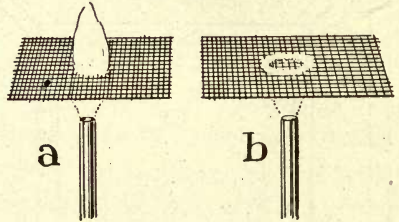

FIG. 125.—Effect of Wire Gauze on a Flame.
**The Davy Safety Lamp.** — If a piece of wire gauze be held above an open gas jet and a match applied below the gauze, the flame will burn below the gauze as in Figure 125 (b), but it will not pass
through to the upper side. If it is ignited above the gauze, the flame will burn as shown in Figure 125 (a), but it will not pass through to the lower side.